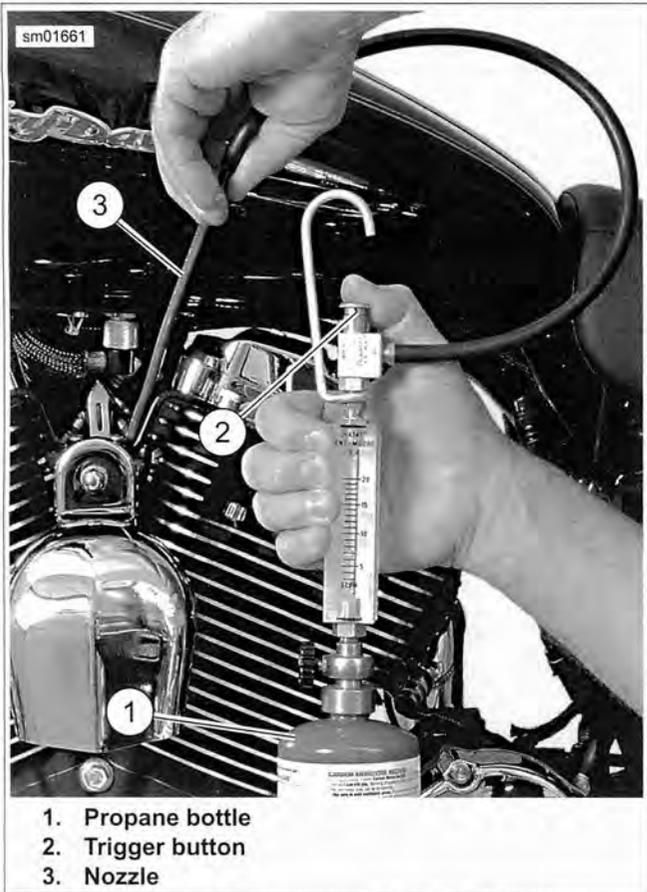

Figure 4-82. Checking for Leaks: All Models
3. See Figure 4-82. Aim nozzle (3) toward possible sources of leak such as intake manifold mating surfaces.
4. Press and release trigger button (2) to dispense propane. Tone of engine will change when propane enters source of leak. Repeat as necessary to detect leak.